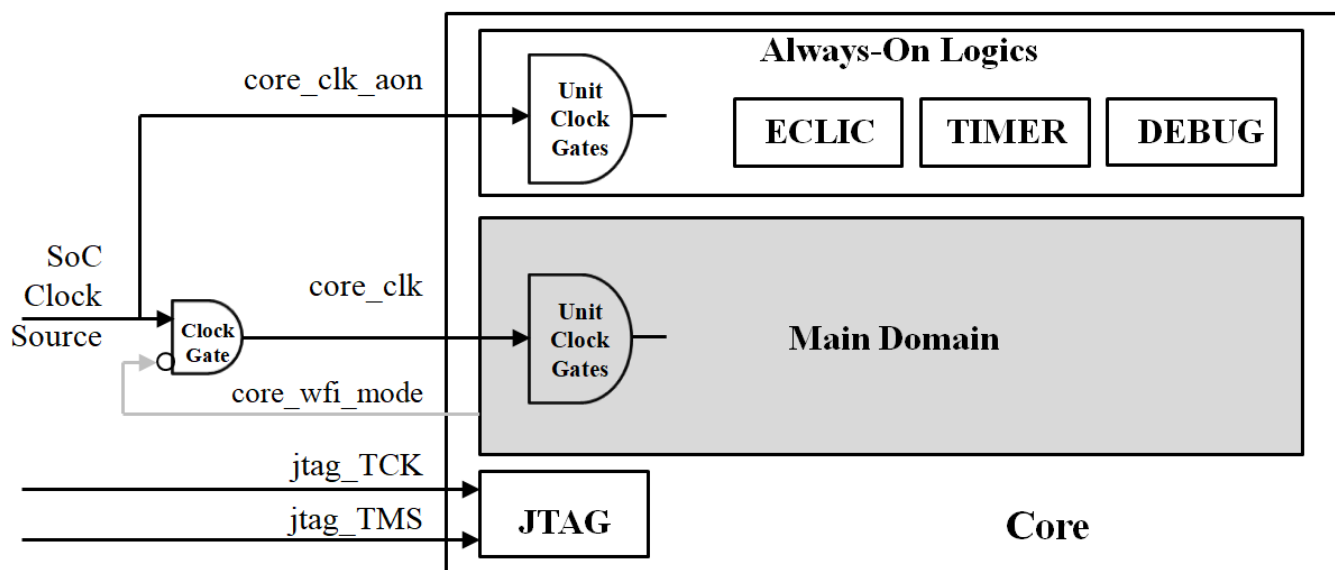

Figure 2-1 Clock domains of the N300 Series Core
The clock domains of the N300 Series Core are shown in Figure 2-1. The entire Core is divided into three asynchronous clock domains:
- As shown in Figure 2-1, when the WFI/WFE is successfully executed, the output signal `core_wfi_mode` of the Core is asserted, indicating that the Core has entered to the sleep mode; at the SoC level, the signal `core_wfi_mode` should be used to control the external gate logic to disable the `core_clk`.